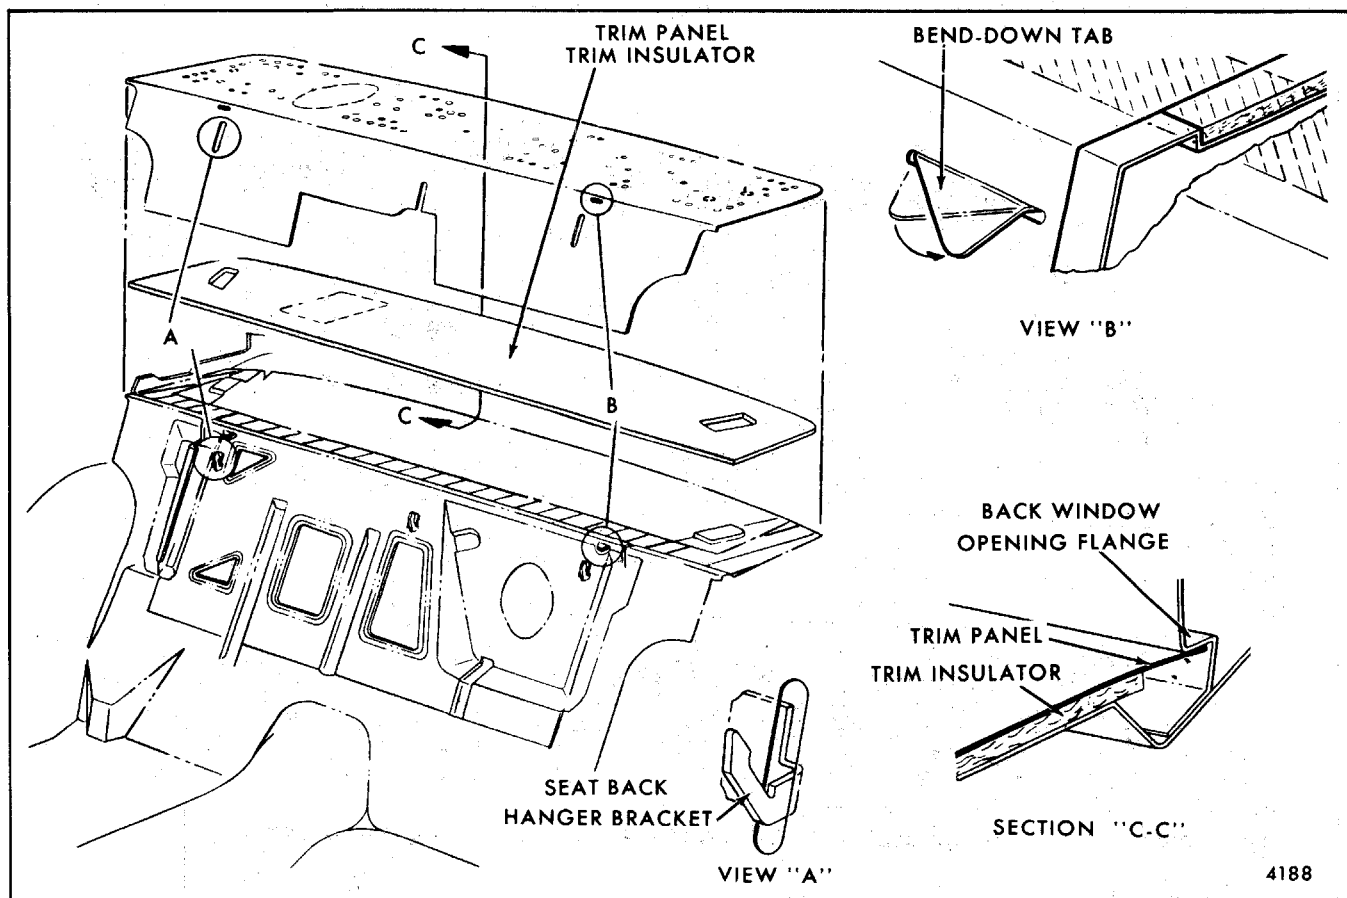

Fig. 9-79-Rear Seat-to-Back Window Trim Panel and Insulator - Typical "H-11" Styles
Refer to appropriate illustration - Figure 9-79, 9-80, 9-81 or 9-82.
5. Carefully bend out tabs shown in View "B", Figure 9-79, and pull front of trim panel forward sufficiently to clear seat back hanger brackets (see View "A", Fig. 9-79); then lift trim panel upward and forward to disengage rear edge of foundation from under back window flange (see Section "C-C", Fig. 9-79) and remove trim panel.